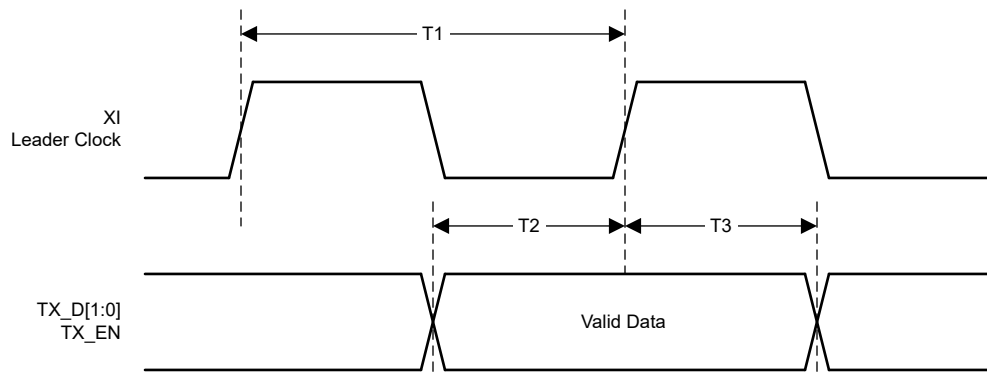

Figure 6-9. RMII Transmit Timing
- (1) Specified by production test, characterization, or design.
(2) See Figure 6-9.